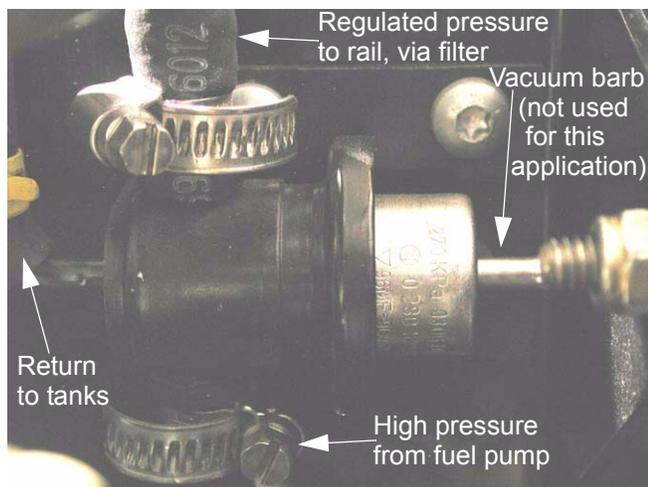

Figure 10.8
10.8. There are two lines exiting the pressure regulator. One is a regulated pressure line that feeds the fuel rail via the fuel filter. The second line is a return line. The third line is a high pressure feed from the fuel pump. See Figure 10.8.